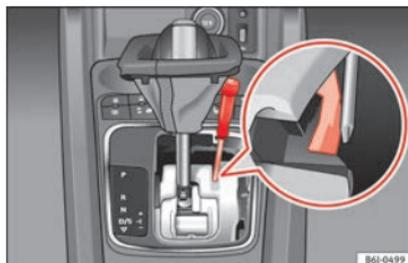

Fig. 46 Manual release of the selector lever.
- Press the yellow plastic part with your finger in the direction indicated by the arrow » » **Fig. 46**.